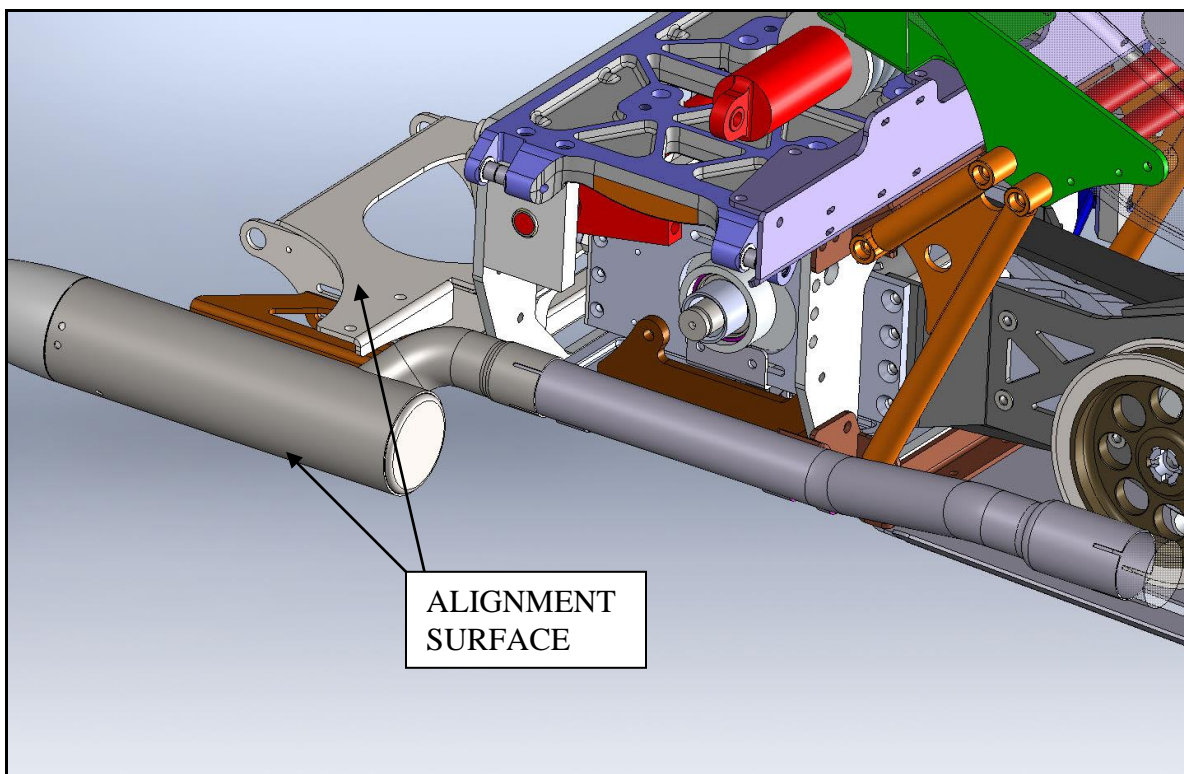

fig 7
4. Adjust the mufflers front to back by aligning the back of the can with the rear suspension plate (see fig 7).